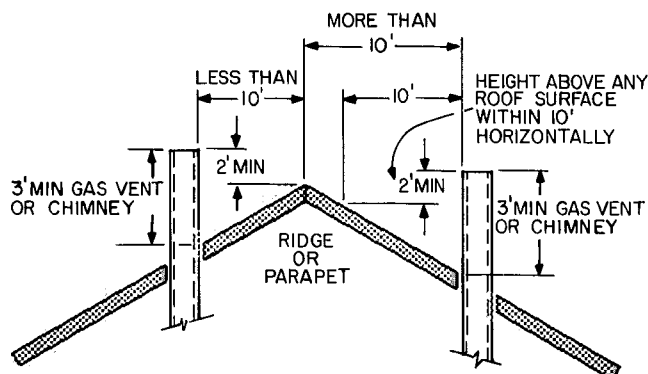

Fig. 5 — Chimney, Gas Vent Height
9. Chimney or gas vent shall extend at least 5 ft above highest connected draft hood and should extend high enough above roof or neighboring obstruction, so that wind from any direction will not create positive pressure in vicinity of chimney or gas vent outlet. Chimney or gas vent should extend 3 ft higher than point of emergence thru roof, and at least 2 ft higher than any object within a radius of 10 ft. See Fig. 5.